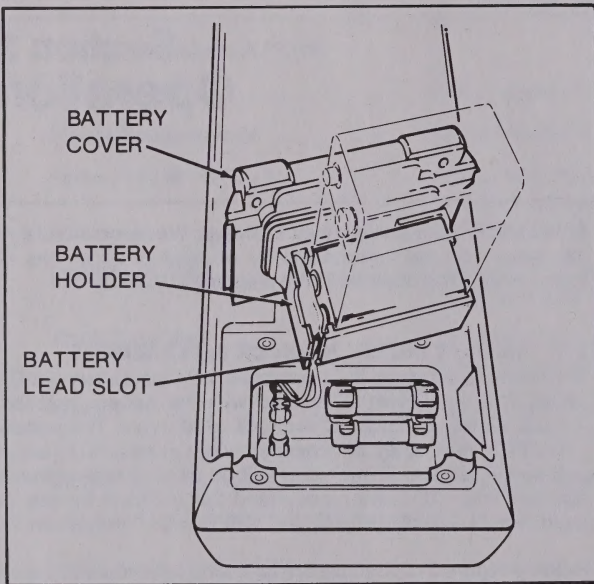

Figure 2-1. Battery Installation
Refer to Figure 2-1, and use the following procedure to install or replace the battery.
5. Snap the battery connector to the terminals on the new battery, then slide the battery into the battery holder. Slip each battery lead into the slot in the holder as shown in Figure 2-1.